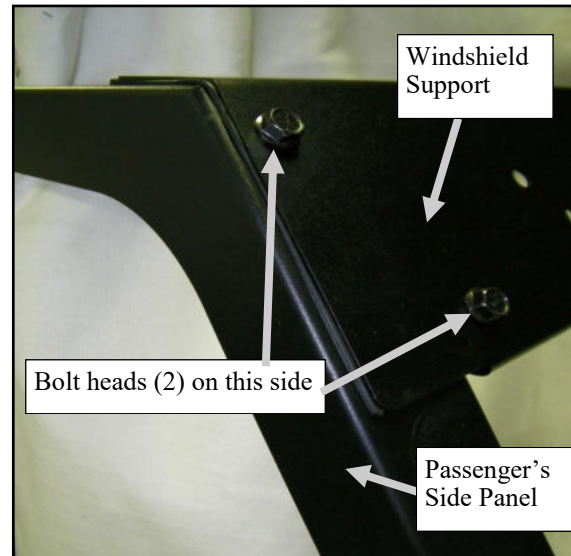

Fig. 7.1 (view of passenger's side)
7.1 With assistance, orient the windshield support as shown in figure 7.1. Fasten to the side panels using the hardware listed below. **Tighten the screws at this time.**